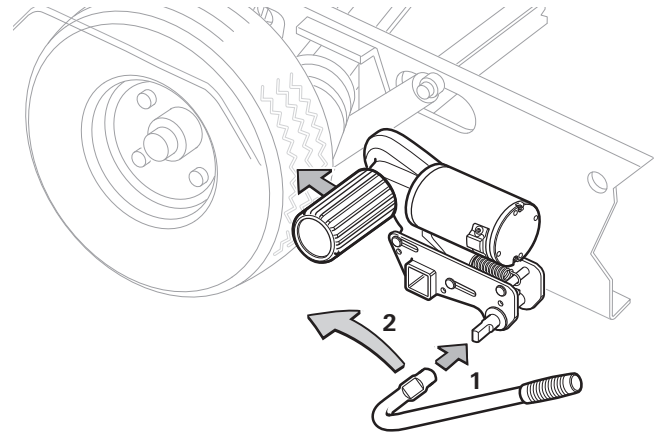
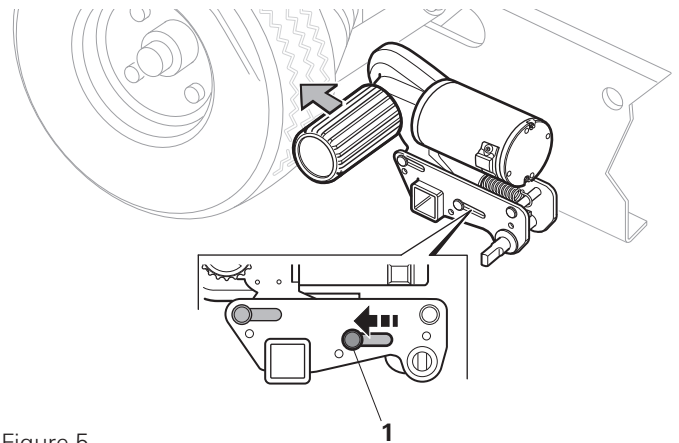

Figure 4
Figure 5
- Attach the engagement lever to the toggle crank (Figure 4 - 1).
- Turn the engagement lever in the direction of the arrow (towards the vehicle wheel) (Figure 4 - 2) until the position indicator is at "√" (Figure 5 - 1) in the housing. In the end position, the drive unit engages securely and the drive roller is pressed approx 20 mm into the tyre. This must be checked on both sides before manoeuvring.